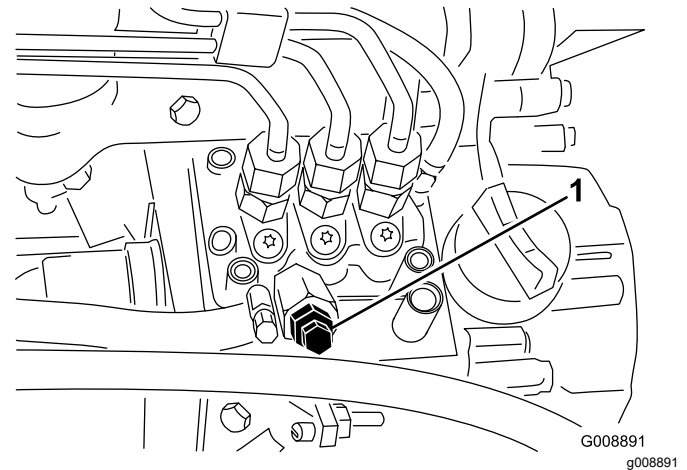

Figure 35
3. Open the air-bleed screw on the fuel-injection pump (Figure 35).